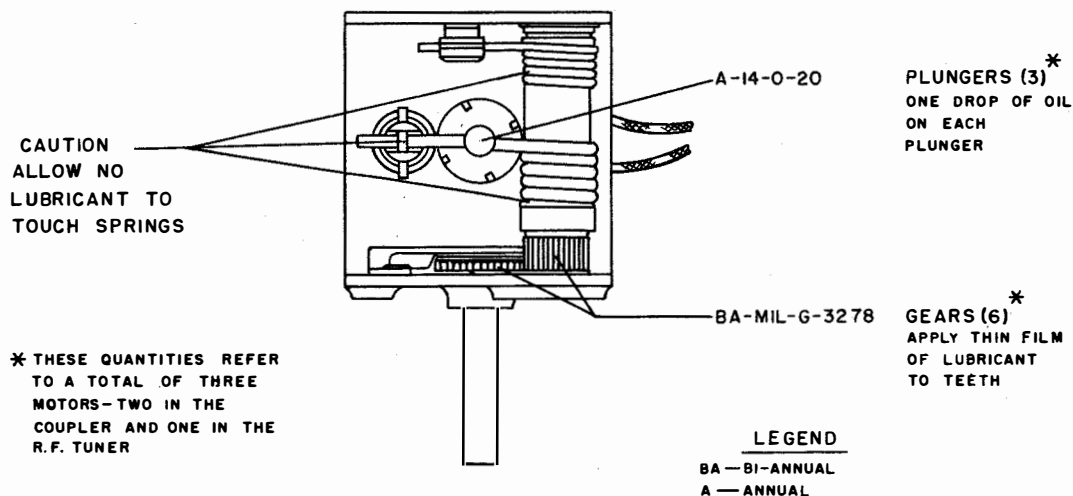

Figure 6-33. Actuator Motor, Lubrication
(2) RFA BLOWER MOTOR B-1306.—A check period of 1,000 hours, as noted on the TOTAL HOURS-FILAMENT counter on the front panel of the Power Supply PP-1095/SRT (MVPS), should be the maximum for this motor. Since the motor is in continuous operation this check period should not be exceeded by more than 50 percent. Check for noise and/or excessive heating.
(3) BASE MOUNT MOTORS B-701 AND B-702.—Check these motors every 10,000 hours as noted on the TOTAL HOURS-FILAMENT meter. Bearings must be carefully cleaned and inspected, if necessary. Refer to the bearing information of Section 6, paragraph 6b, and any pertinent disassembly procedures in Section 7.
(4) R-F TUNER AND COUPLER MOTORS.—The r-f tuner has drive motor B-301, blower motor B-306, and actuator motor B-303. The coupler has actuator motors B-3501 and B-3502. An annual inspection of these motors is required. Check Section 7 for the disassembly procedures necessary to gain access to these motors. The drive motor (B-301) and the blower motor (B-306) require no lubrication but should be examined for operating defects. The three actuator motors (B-303, B-3501, and B-3502) require some lubrication. This procedure is outlined in figure 6-33. Refer to Section 6, paragraph 6b, for bearing information.